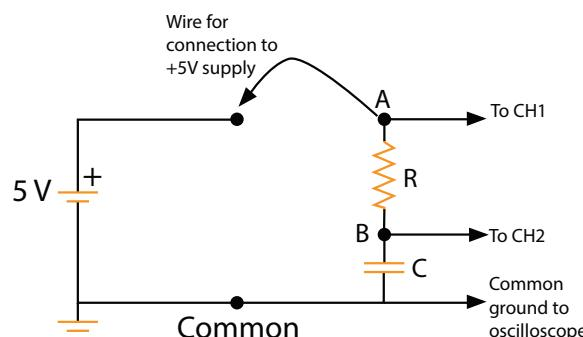

Figure 5.4.2: A circuit for observing RC transients with the oscilloscope.
5. Now you are going to use the Oscilloscope to explore the charge and discharge of a capacitor. To allow a much shorter time to charge and discharge we are going to use a much smaller capacitor $C = 220 \text{ nF}$, and a slightly bigger resistor $R=100 \text{ k}\Omega$ for this part of the experiment as shown in Figure 5.4.2.
15. Keeping the settings and connections of the signal generator and oscilloscope the same as your last question, replace the capacitor and resistor of Fig. 5.4.2 with the inductor and the new resistor. Calculate the time constant of your circuit. Based on your measurements of the inductor values, what is an important parameter to consider in your calculations?